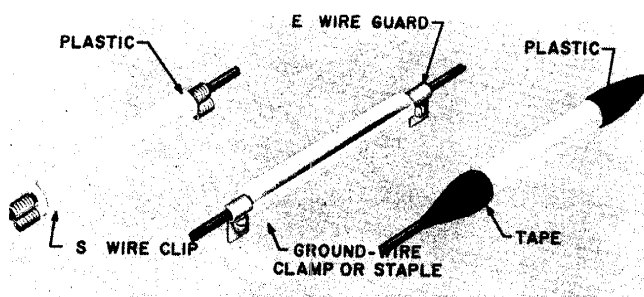

Fig. 3 — Securing Plastic Tubes or E Wire Guard
4. Use clamps or staples as shown in Fig. 3 if support for tube is needed.